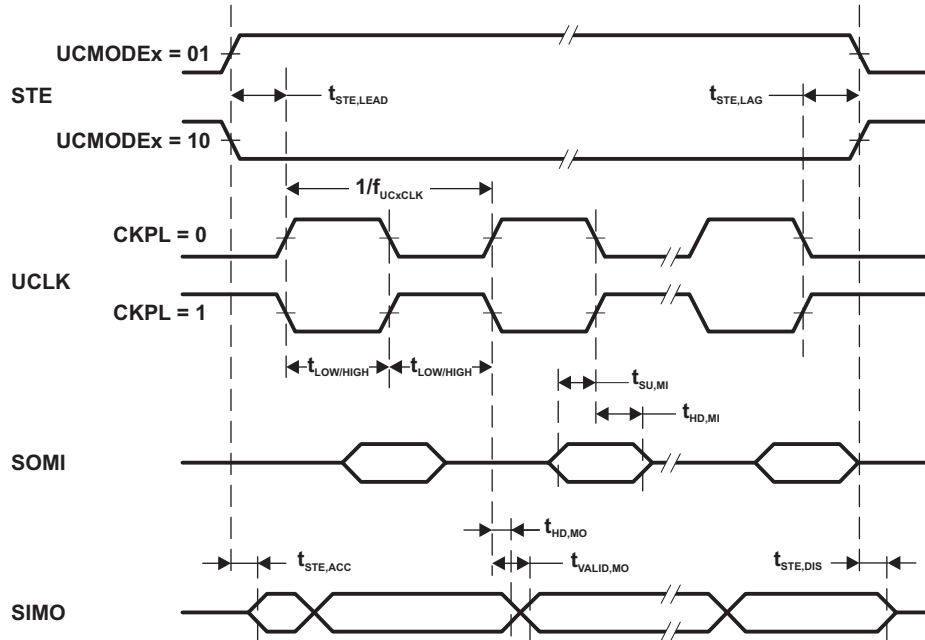
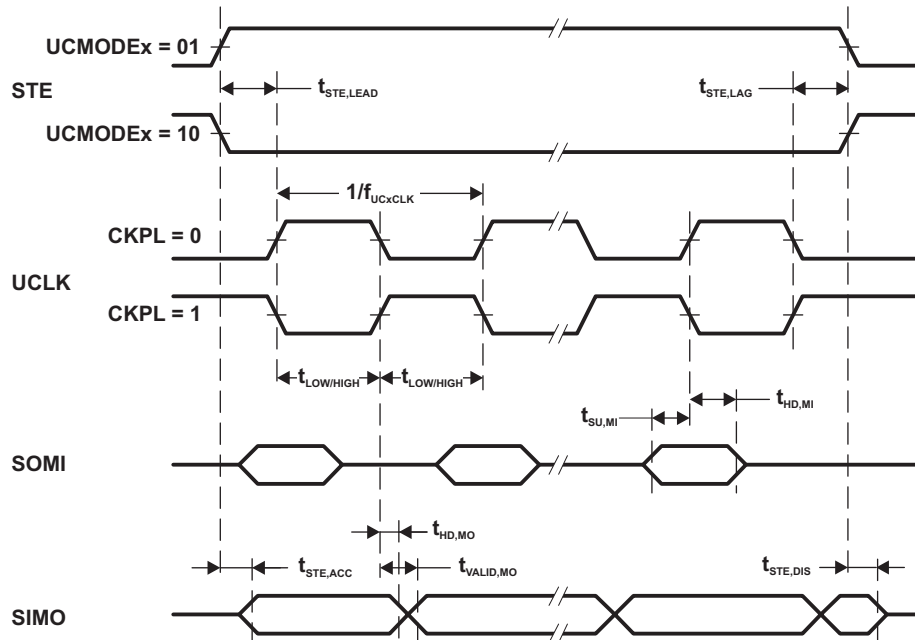

Figure 5-15. SPI Master Mode, CKPH = 0
Figure 5-16. SPI Master Mode, CKPH = 1
- (1)  $f_{UCxCLK} = 1/2(t_{LO/Hi})$  with  $t_{LO/Hi} = \max(t_{VALID,MO(eUSCI)} + t_{SU,SI(Slave)}, t_{SU,MI(eUSCI)} + t_{VALID,SO(Slave)})$ . For the slave parameters  $t_{SU,SI(Slave)}$  and  $t_{VALID,SO(Slave)}$ , refer to the SPI parameters of the attached slave.
- (2) Specifies the time to drive the next valid data to the SIMO output after the output changing UCLK clock edge. Refer to the timing diagrams in Figure 5-15 and Figure 5-16.
- (3) Specifies how long data on the SIMO output is valid after the output changing UCLK clock edge. Negative values indicate that the data on the SIMO output can become invalid before the output changing clock edge observed on UCLK. Refer to the timing diagrams in Figure 5-15 and Figure 5-16.